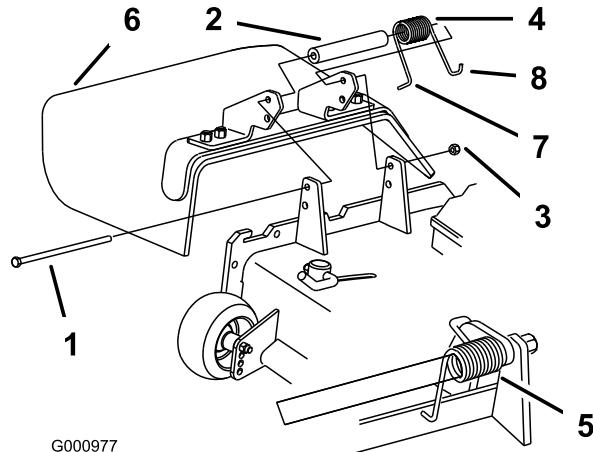

Figure 85
1. Remove the locknut, bolt, spring and spacer holding the deflector to the pivot brackets (Figure 85). Remove the damaged or worn grass deflector.
3. Install the bolt and nut. Place the **J** hook end of the spring around the grass deflector (Figure 85).